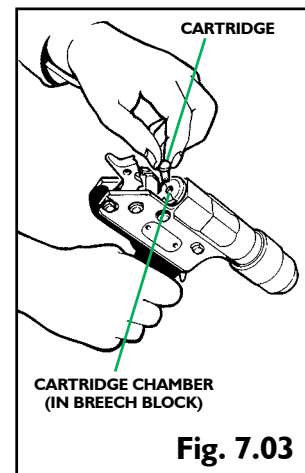

Fig. 7.03
- 2.1 Obtain a single cartridge, and load into the cartridge chamber crimped end first, as shown in Fig. 7.03**